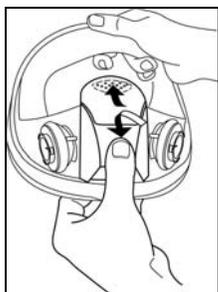

Fig. 16
1. Remove valve cover by depressing bottom of cover with thumb and sliding cover up, parallel with lens. (Fig 16)
1. Remove valve cover by depressing bottom of cover with thumb and sliding cover up, parallel with lens. (Fig. 16)
2. Remove valve cover by depressing bottom of cover with thumb and sliding cover up, parallel with lens. (Fig. 16)
2. Remove the valve cover by depressing bottom of cover with thumb and sliding cover up, parallel with lens. (Fig. 16)